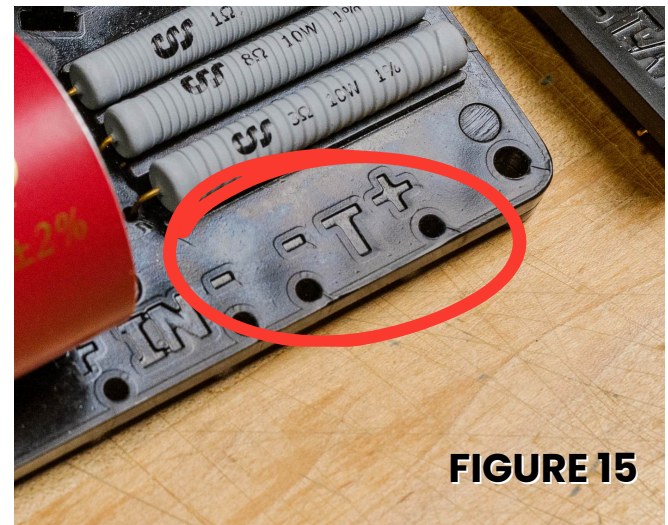

FIGURE 15
6. Insert the red wire through the T+ hole on the front of the SmartNode board and solder to the appropriate letter on the rear (*figure 15*).